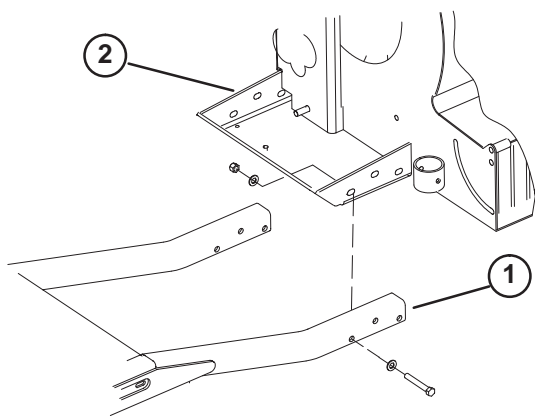

Figure 4
2. Align frame mount tubes with mounting holes in blower frame (Fig. 4).